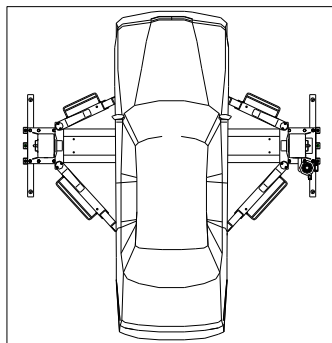

Fig.14 Correctly loaded vehicle
It is important to position the vehicle on the lift so that the weight is correctly distributed on the arms (Fig.14) For person and equipment safety, it is important that:
3. The vehicle is correctly positioned. (Fig.14).